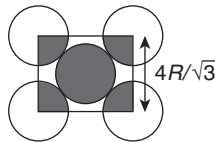

Figure 15 Packing in bcc.
3. **For body-centered cubic (bcc) structure:** Similarly for a bcc structure, the spheres touch each other along the body diagonal as shown in Figure 15. Hence unit cell edge is